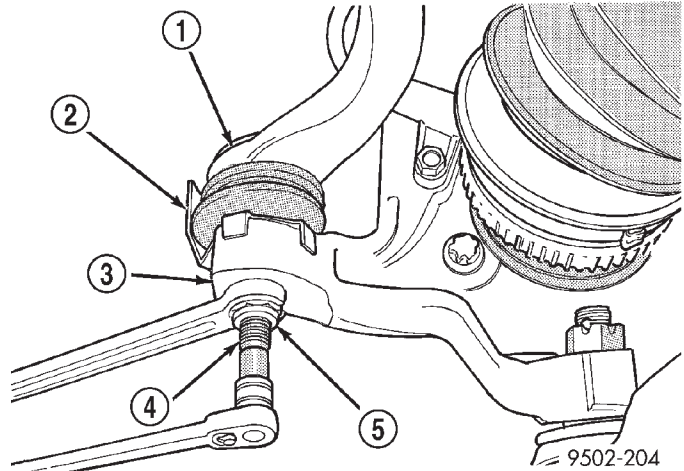

Fig. 43 Tie Rod End Attaching Nut
(3) Remove nut attaching the outer tie rod end to the steering knuckle (Fig. 43). **Nut is to be removed from tie rod end using the following procedure, hold tie rod end stud with a 11/32 socket while loosening and removing nut with wrench (Fig. 43).**
(4) Install the tie rod end into the steering knuckle. Start the tie rod end to steering knuckle attaching nut onto stud of tie rod end. While holding stud of tie rod end stationary, tighten tie rod end to steering knuckle attaching nut (Fig. 43). Then using